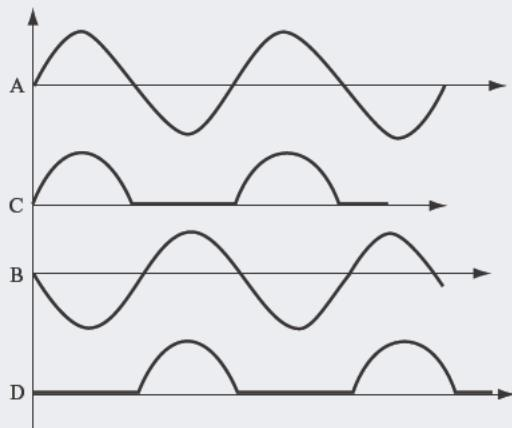
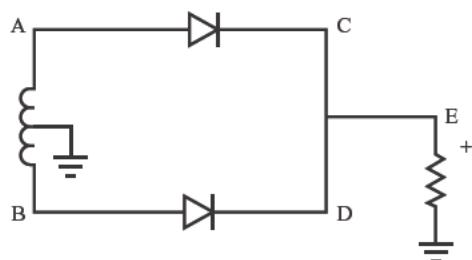

FIGURE 11.14
FIGURE 11.15
- C. See Figure 11.14.
- 11 Figure 11.15 shows a circuit in which diodes connected to the ends of a center-tap transformer are connected to ground through a single resistor. The output voltage waveforms from both diodes are therefore applied across one load resistor. This type of circuit is called a *full-wave rectifier*.
On a separate sheet of paper, draw the waveform representing the voltage at point E in the circuit, as shown in Figure 11.15. (This waveform is a combination of the waveforms at points C and D shown in Figure 11.14.)
How does this circuit differ from the circuit shown in Figure 11.15? _____